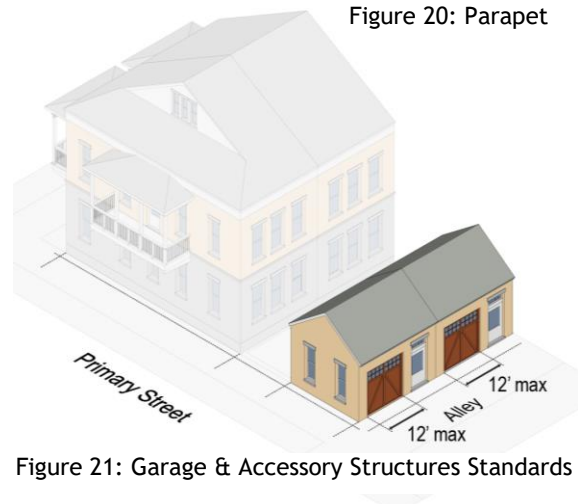

Figure 21: Garage & Accessory Structures Standards
(5) Garages & Accessory Structures.
- a. Attached garages and accessory structures including detached garages shall be subordinate in overall footprint to the primary structure and shall be compatible with the primary structure in terms of roof form, materials, and color (Figure 21).
- b. Garage doors visible from the street or adjacent properties must be visually consistent with the architectural style of the structure and new garage doors shall not exceed a maximum width of 12' for a single door (Figure 21).